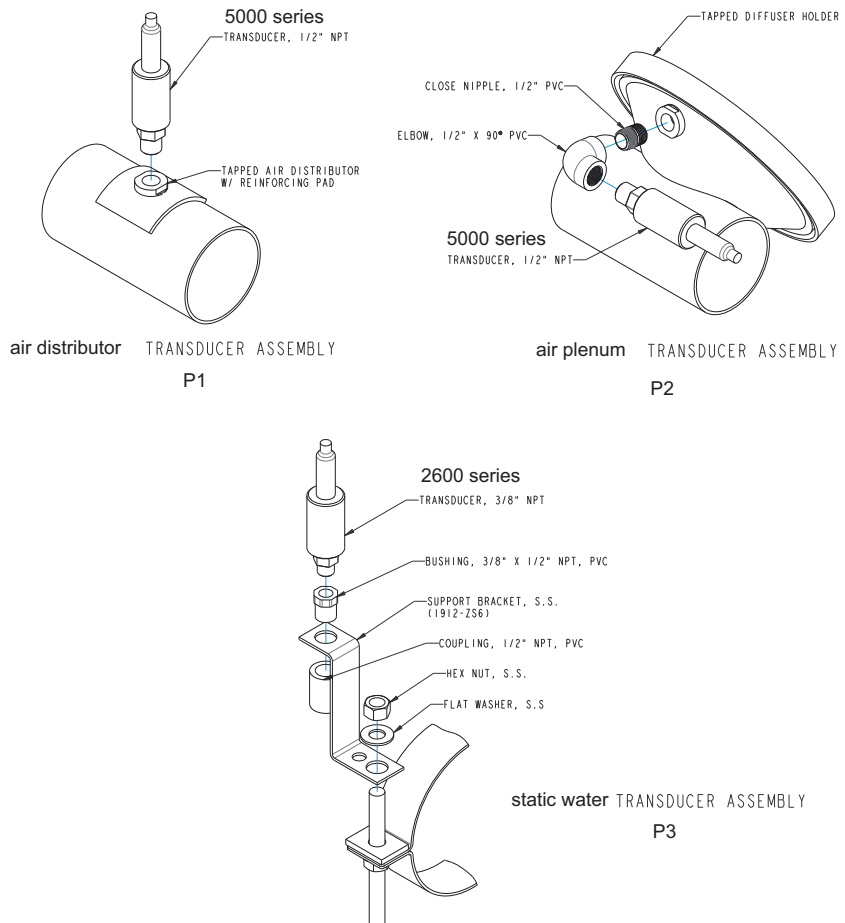

figure 3-3 Holder Tap Assembly Detail (Detail 2802 Series Diffuser)
- 12 Thread 1/2" NPT transducers (5000 series) into aeration piping and holder (see figure 3-3)
- 13 Thread 3/8" x 1/2" NPT PVC bushing onto 3/8" NPT transducer (2600 series) (see figure 3-3)